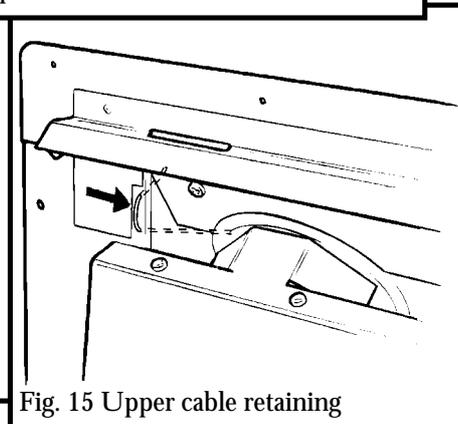

Fig. 15 Upper cable retaining
7.2.4 The convection box has two holes at each side of the convected air opening. Insert one end of each cable (one cable each side) from the back through the lower of the two holes and return the end through the upper of the holes (see figure 15). Give the cables a pull so that they grip against the convection box flanges.